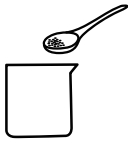

Fig 4
3. Use one measuring cup of water to dissolve $\frac{1}{2}$ **teaspoon** rock salt and pour the saline solution into the water tank, over the existing water, not exceeding the Max level. It is normal to have deposited impurities in the cup after dissolving the rock salt that is natural and unprocessed – please discard those. NEVER exceed the Max level! NEVER fill in water during operation! If the tap water is hard or contains chlorine it is better to use bottled water. (Fig 4)